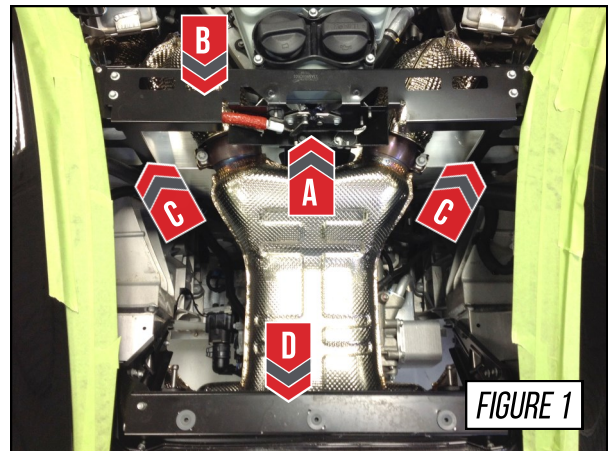

FIGURE 1
Taping any painted or finished body panels is recommended to reduce the risk of scratching or damaging any of the paneling, or adjacent paneling, being removed, as shown in **Figure 1**.
- Hatch latch (**Arrow A** in **Figure 1**)
- Center latch frame (**Arrow B** in **Figure 1**)
- Center latch side frames (**Arrows C** in **Figure 1**)
- Rear upper frame (**Arrow D** in **Figure 1**)